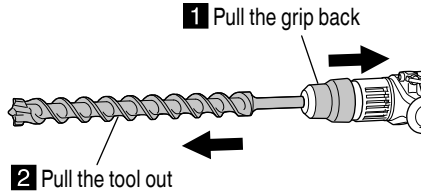

Fig. 16
- To remove the tool, fully pull the grip in the direction of the arrow and pull out the tool (Fig. 16).